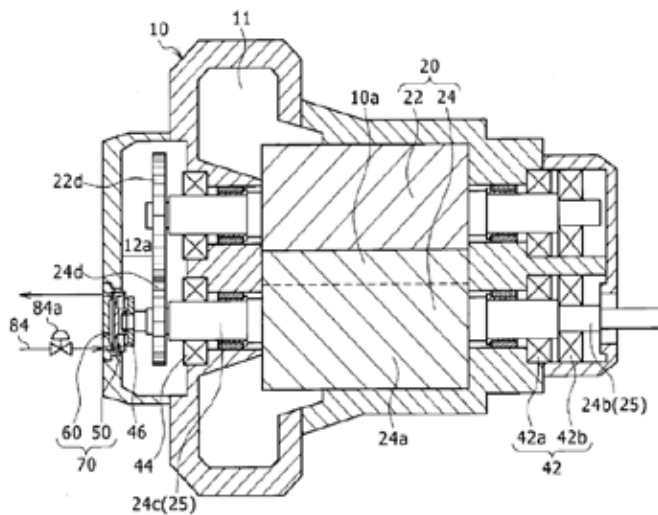
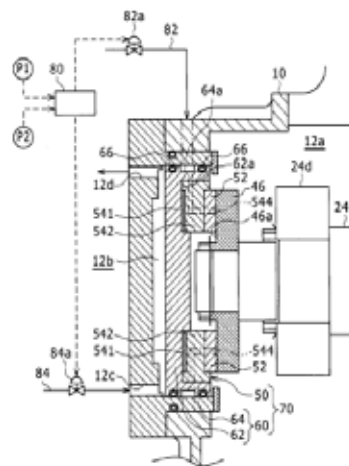

Figure 2. Compressor section view.
Figure 3. Detailed view.
The following configuration was designed by Takaki et al. (2015), which uses a thrust plate located at the end of the rotor shaft to limit the thrust force transmitted to the bearing. This component is represented by item 46 in Figure 2. The amount of thrust can be adjusted depending on the pressure differential between the suction and discharge pressures. The adjustment is carried out by a control unit that is comprised of pressure sensors and a control unit, represented by item 80 in Figure 3.